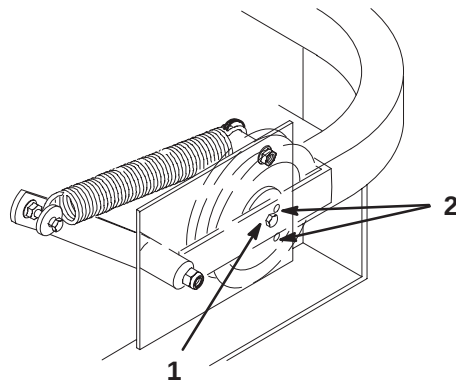

Figure 65
6. Check belt tension. The center bolt of spring loaded idler must be between the two alignment holes in left support plate (Fig 65).
Check position of center bolt in a High Height of Cut. The center bolt must be at or above the lower adjustment hole (Fig 65).
8. Check belt tension again. The center bolt of spring loaded idler must be between the two alignment holes in left support plate (Fig 65). Adjust, if necessary, and tighten all hardware securely.